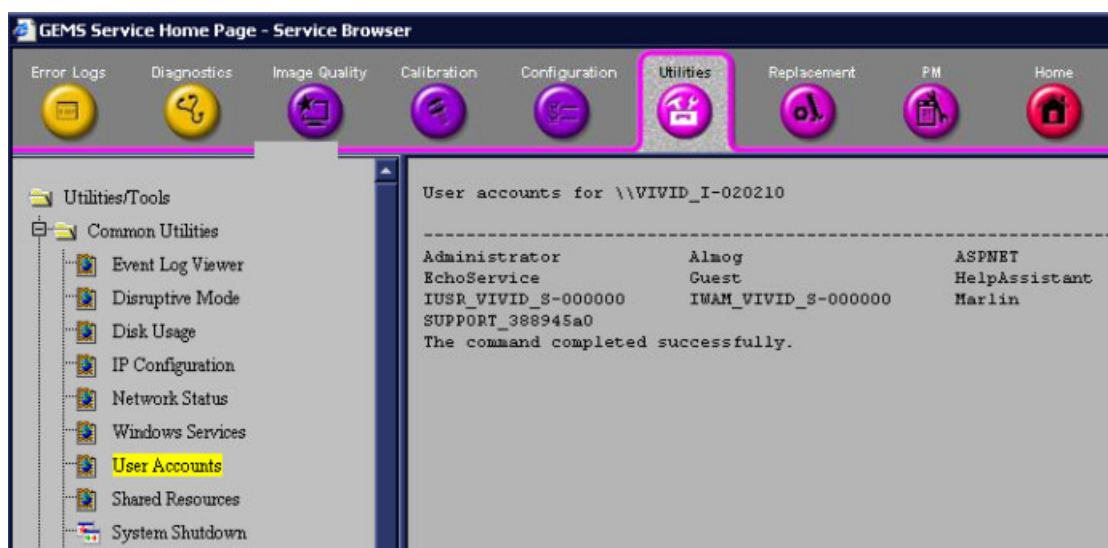

Figure 7-127 User Accounts
- **User Accounts** - states those users registered on the system - see Figure 7-127.